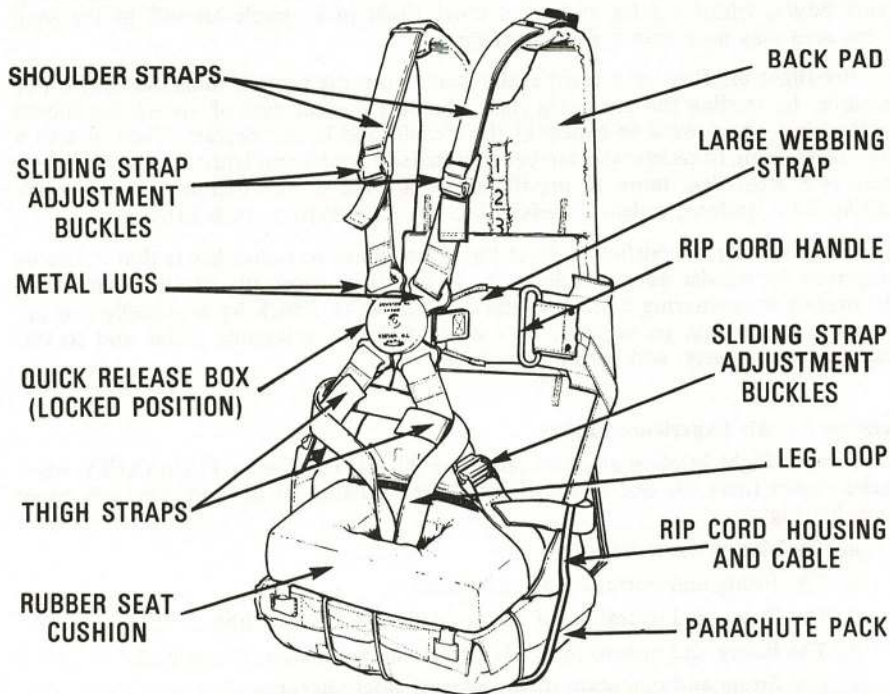

Fig 12 Seat Type Parachute
7. **Description.** The parachute used in Chipmunks is the seat type (Fig 12) which consists of the parachute pack with a soft, rubber seat cushion on top, a back-pad, four straps, a quick release box, and the rip-cord and handle.